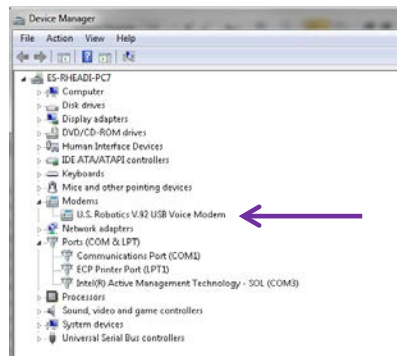

Figure 12: Device Manager Modem Recognition
1. Plug the modem into an available USB port on the local PC. The Windows **Device Manager** identifies the device as a modem, as illustrated by Figure 12.